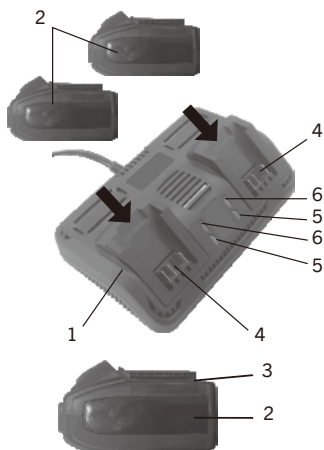

FIG. 1
1. Before using the tool, charge the battery. Place the battery charger (1) in a dry location near a 110–120V 60 Hz electrical outlet (Fig. 1).